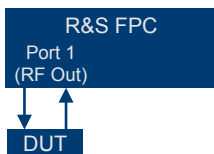

Figure 19-2: Setup of a reflection S11 measurement
1. Connect the DUT to the R&S FPC as shown in Figure 19-2.
1. Connect the DUT to the R&S FPC as shown in Figure 19-2. Make sure not to terminate the cable.